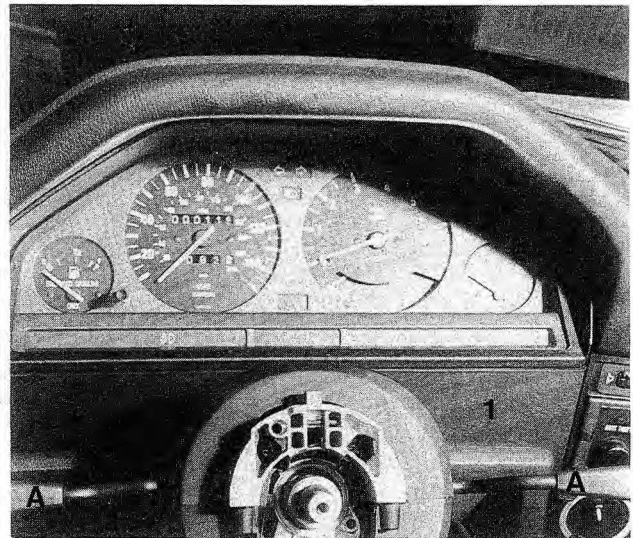

Fig. 4-2. Instrument trim panel (1) to be removed by removing two knurled nuts from up behind panel (A).
4. Remove the instrument trim panel shown in Fig. 4-2 by removing the two knurled nuts from behind the panel.